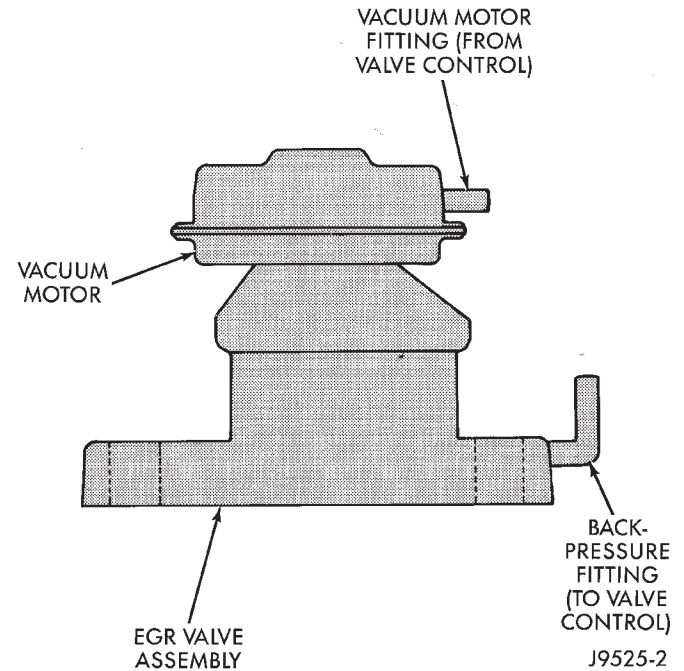

Fig. 6 Typical EGR Valve
(1) All engines are equipped with two fittings located on the EGR valve (Fig. 6). The upper fitting (located on the vacuum motor) supplies engine vacuum to a diaphragm within the EGR valve for valve operation. The lower fitting (located on the base of the EGR valve) is used to supply exhaust back-pressure to the EGR valve control.
(2) Disconnect the rubber hose at the vacuum motor fitting (Fig. 6) on the top of the EGR valve vacuum motor.